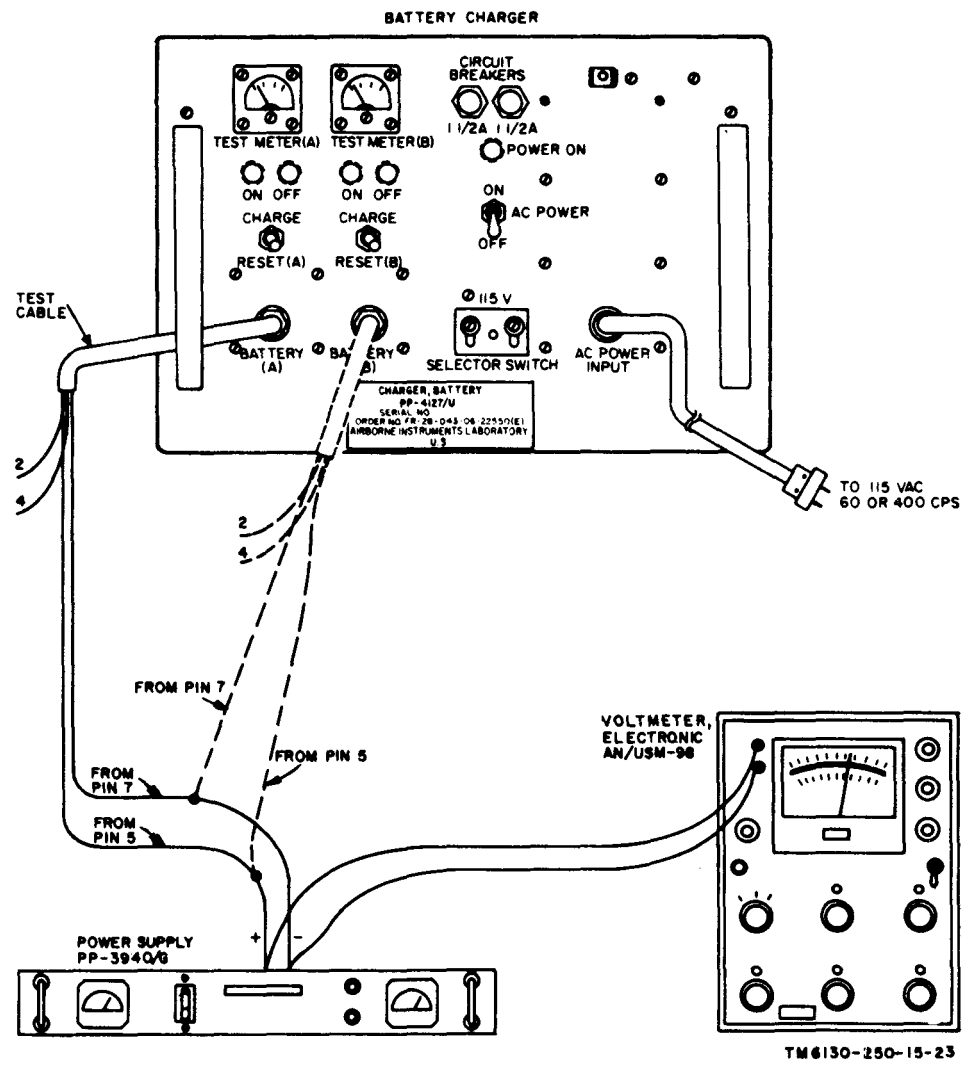

Figure 7-3. Charging voltage cutoff test.
- (1) Power Supply PP-3940/G.
- (2) Voltmeter, Electronic AN/USM-98.
- (3) Test cable (para 5-2h).
**b. Test Connections and Conditions.** Connect the equipment as shown in figure 7-3.